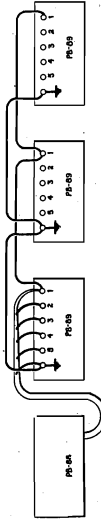

Figure 6—Multiple Operation of Power Amplifier
- (b) Connect the power amplifiers to the voltage amplifier as shown in Figure 6.